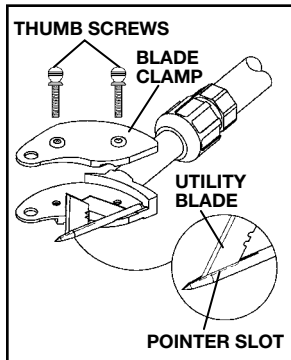

Figure 1
- For utility blade: Put end of blade inside steel pointer's slot; then place both of them into the cavities of the blade holder body (Figure 1).